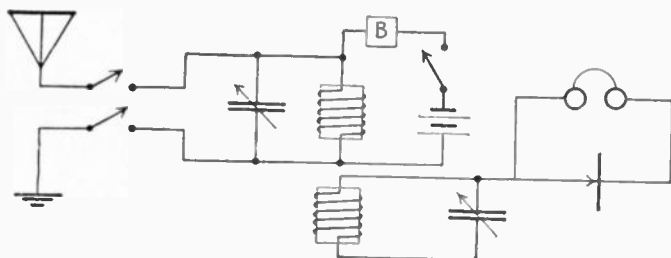

Fig. 5.—Diagram of Apparatus for Measuring Antenna Capacity.
**A. Measurement of antenna capacity.** Fig. 5 gives the circuit used to measure the capacity of an antenna. This method requires only a calibrated condenser.